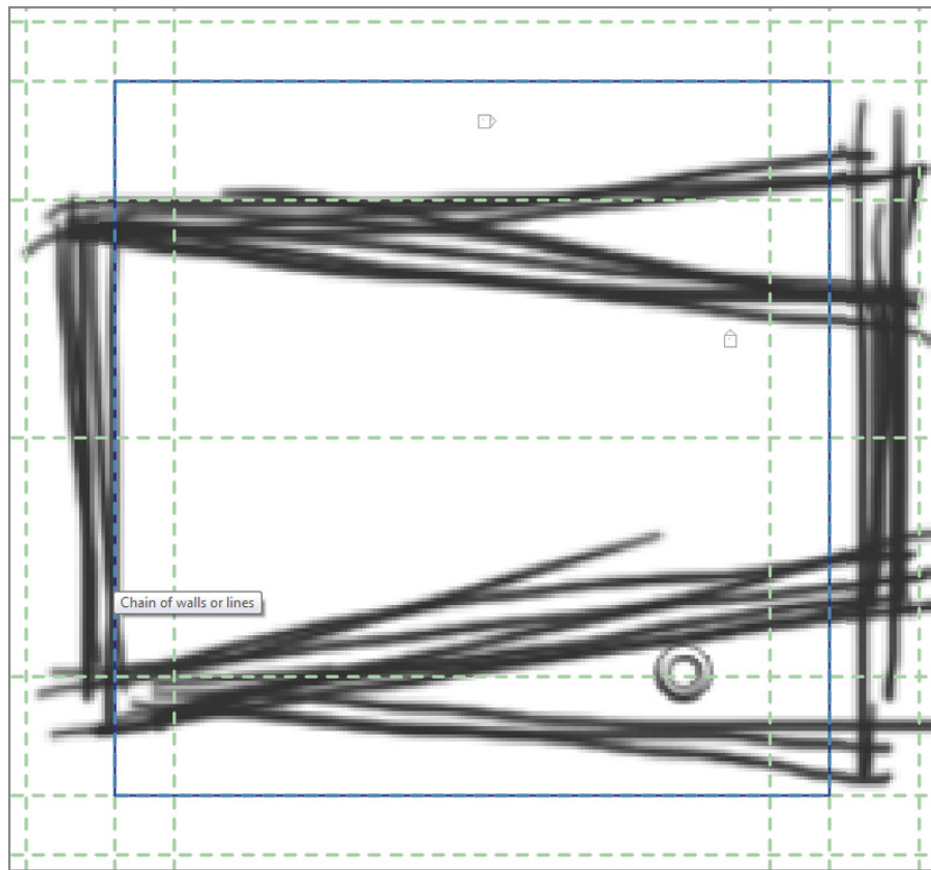

FIGURE 7.16 Sketching a rectangular form
6. Using the Rectangle tool, sketch some lines as shown in Figure 7.16. These lines should cover the form and be placed along the reference planes you created earlier.